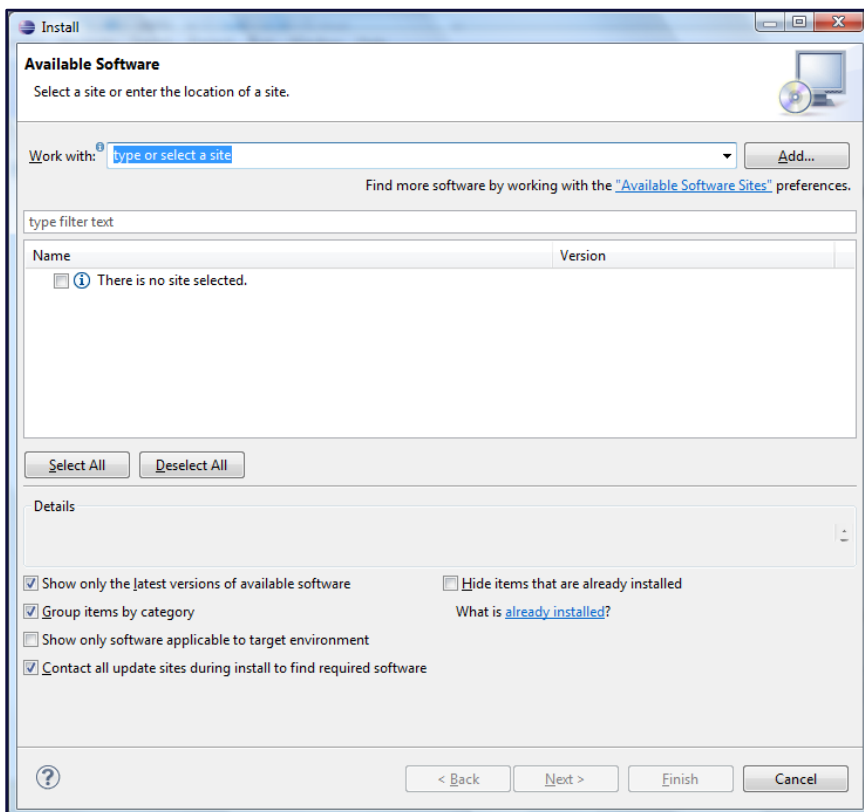

Figure 5: New Software installation window
- From Eclipse, click **Help > Install New Software** (Figure 5).